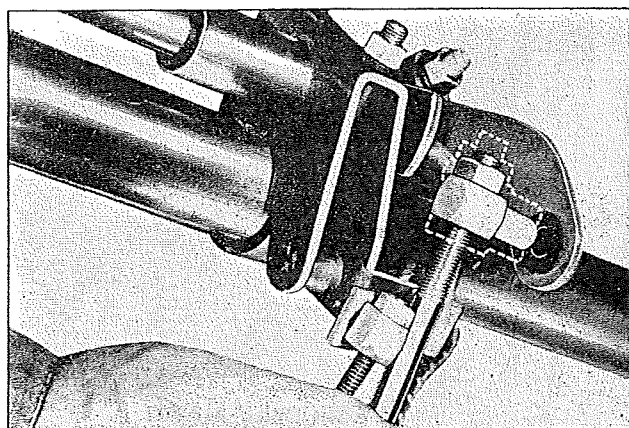

Fig. 17—Chevrolet 1940-42
SHIFT CONTROL ROD: (See Fig. 17.) (1)—Set gearshift lever in a horizontal position. (2)—Loosen check nut and push control rod back until all clearance is taken up. (3)—Note location of swivel with reference to the shift control lever. (4)—Pull control rod forward until all clearance is removed, and again note location of swivel. (5)—The neutral valve position is a point midway between these two noted positions. (6)—Screw the swivel up or down until the pivot just enters the shift control lever.